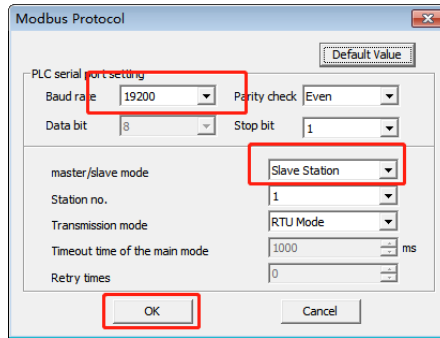

Figure 4-2 Parameter configuration
- 2) Click "Modbus Settings" to enter the communication parameters configuration, click "Confirm" after configuration to complete the communication parameters configuration As shown in Figure 4-2
3) The VC-RS485 expansion communication module can be used as either a slave station or a master station, and you can choose according to your needs. When the module is a slave station, you only need to configure the communication parameters as shown in Figure 4-2; when the module is a master station, please refer to the programming guide. Refer to Chapter 10: Communication Function Usage Guide in "VC Series Small Programmable Controller Programming Manual", which will not be repeated here.